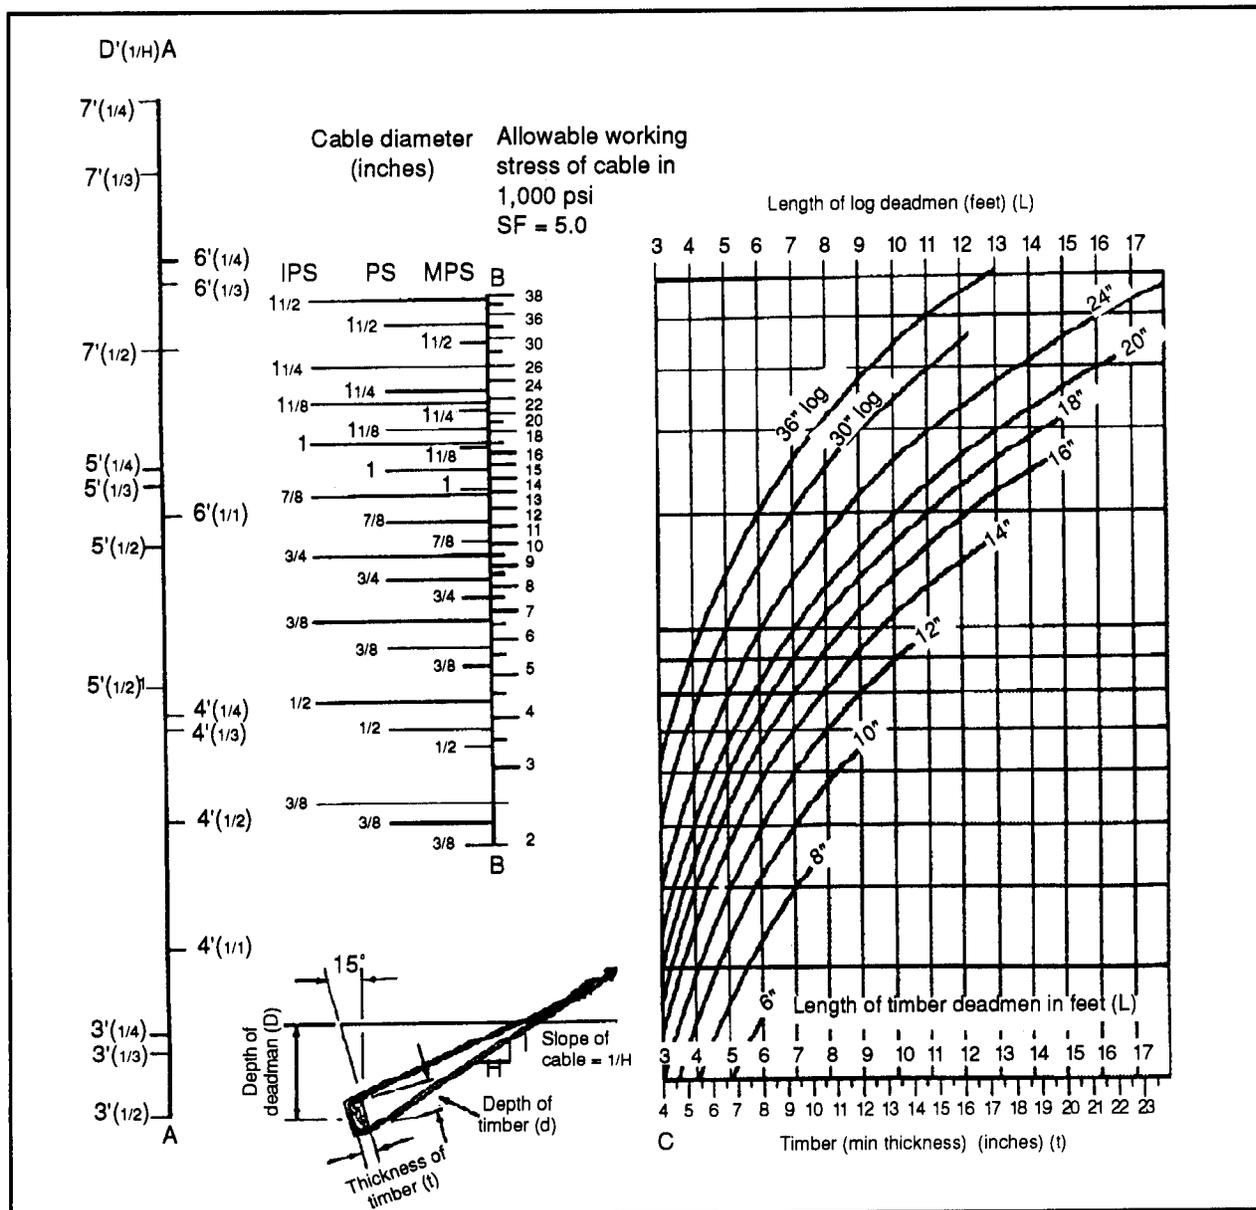
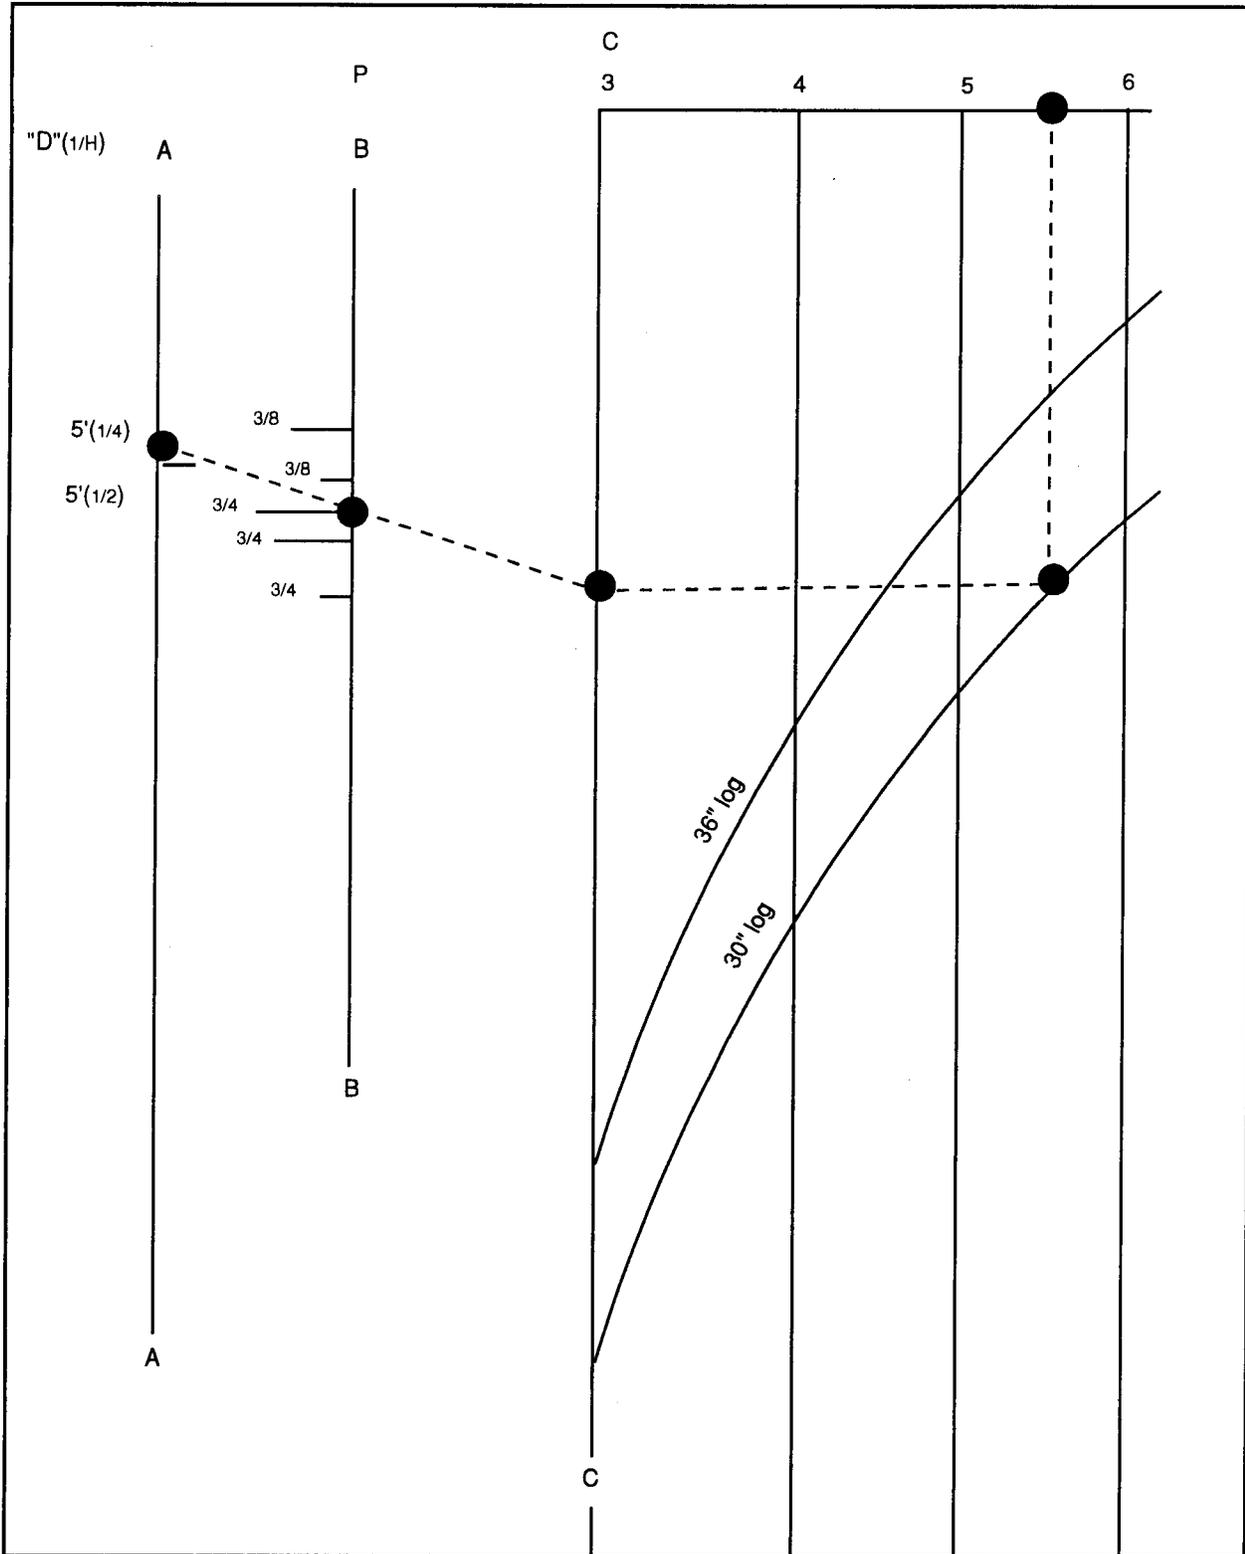

Figure 4-14. Designing a deadman
Figure 4-15. Using a nomograph
- Solution: With this information, use the nomograph to determine the diameter and length of the deadman required (see Figure 4-14). Figure 4-15, page 4-12, shows the steps, graphically, on an incomplete nomograph. Lay a straightedge across section A-A
- Solution: Use the same 1:4 slope and 5-foot depth, along with the procedure to the left of the graph, as in the previous problem (see Figure 4-14, page 4-11). At C-C, go horizontally across the graph to the timber with an 18-inch face. Reading down (working with cut timber), you can see that the length is 8 feet 6 inches and that the minimum thickness is 11 1/2 inches. None of the timber sizes shown on the nomograph will fail due to bending.